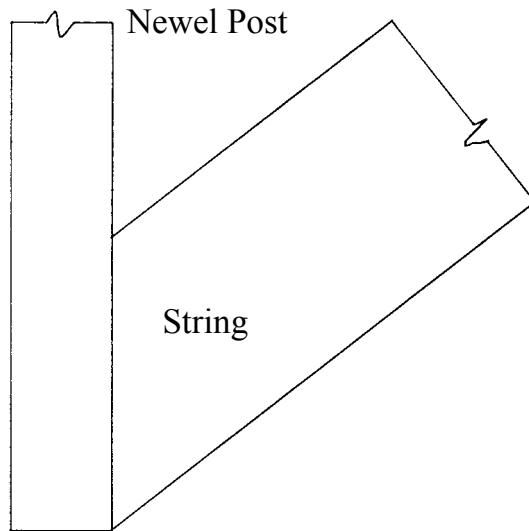

Fig. 1
2. Fig. 1 shows a side elevation of a newel post and string. Illustrate on the drawing to indicate how the string is jointed to the newel post.